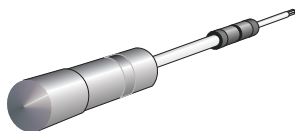

Figure 4: Torque tool and hex adapter
- **Torque tool with hexagonal adapter**—The torque tool with 5/32" hexagonal adapter, as shown in Figure 4, is required to remove and replace director logic cards.